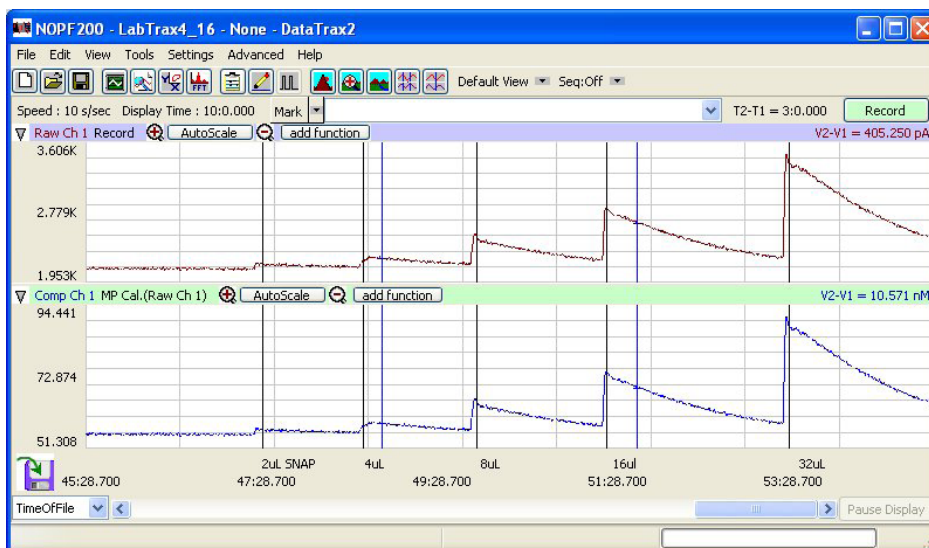

Fig. 47—Raw Data in channel 1, Calibrated data in comparison channel
12. The final calibration results appear at the bottom of the recording on the LabScribe main page as a comparison channel (Fig. 47).